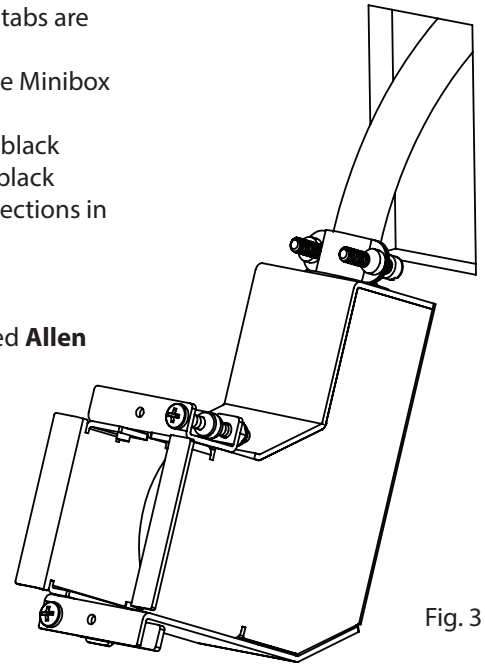

Fig. 3
13. Feed the Minibox into the wall opening at a slight angle (Fig. 3) until the side tabs are pressed against the mounting surface. (Fig. 3)